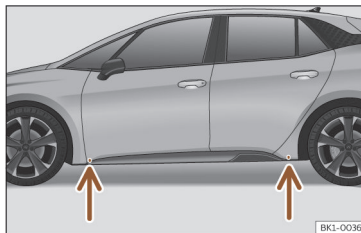

Fig. 168 Jack position points.
- Find the support point on the strut (sunken area) closest to the wheel to be changed >>> Fig. 168.